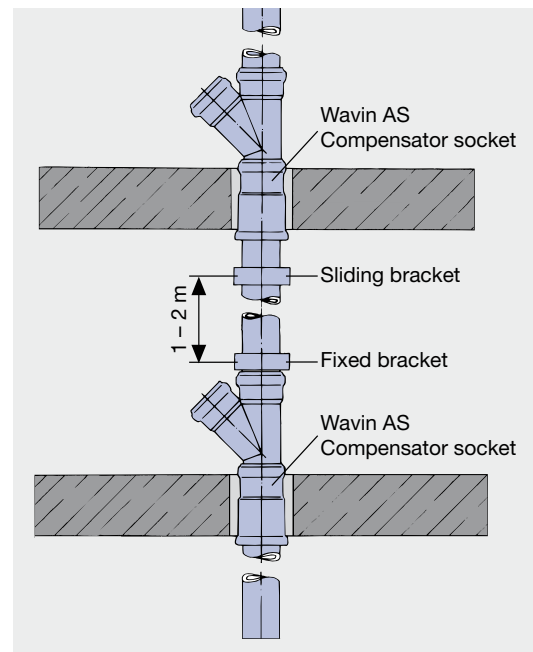
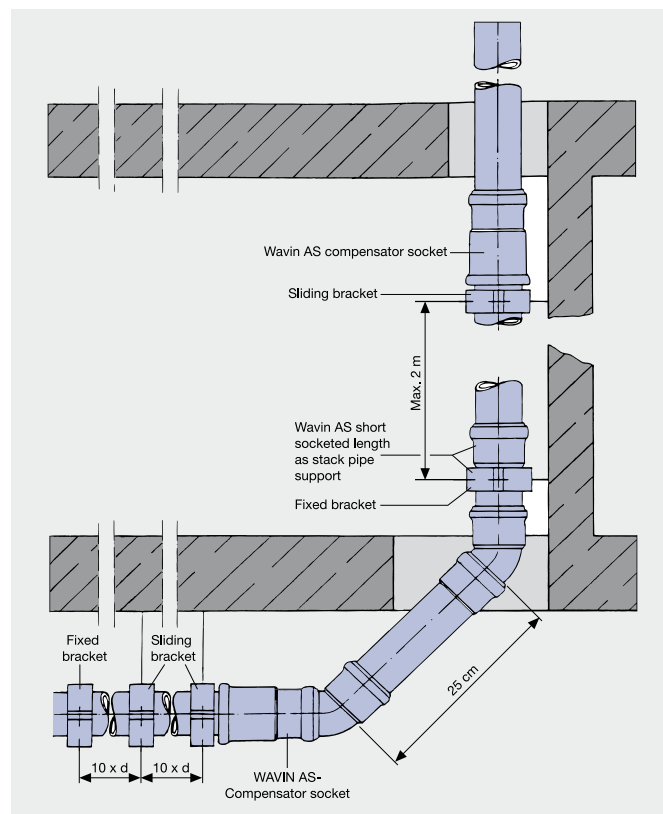

Figure 8 Fixing Wavin AS
Figure 9 Fixing Wavin AS with stack pipe support
- In case of horizontal installation, the pipe bracket distances 10 x the outside diameter of the pipe (see figure 9). In case of vertical pipe installation, depending on outside diameter, 1-2 metre (see figure 8).
- The fixed bracket must be installed directly above the fitting at the bottom of the pipe end. The sliding bracket must be installed at a distance of maximum of 2 metres above the fixed bracket (see figure 9).
- In multiple storey buildings (from 3 storeys and more) the stack pipes of DN 100 or bigger must be secured by additional fixing (stack pipe support) against sliding (see figure 9). In this case we advise using the Wavin AS socketed short length with a fixed bracket. Stack segments with fittings or short pipes are to be secured in such short distances with pipe brackets, that they cannot slide apart.
In exceptional cases, where connecting elements other than the compensator socket are used (eg double socketed sleeve), per maximum allowable pipe length (3 metres), one fixed bracket and one sliding bracket should be installed in line with the illustrations (see figure 8) and (see figure 9) shown on this page. The double socketed sleeves are to be fixed.